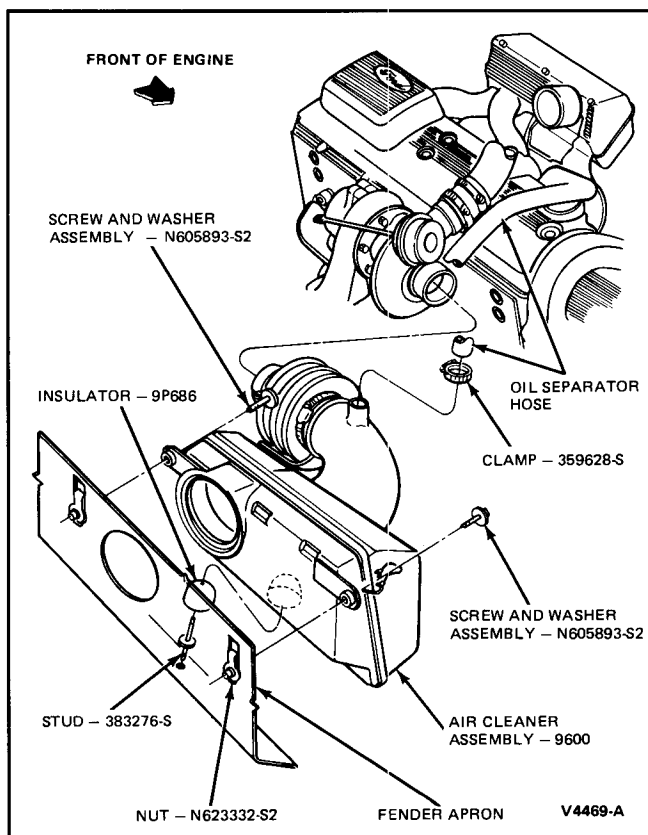

FIG. 1 Air Cleaner Assembly
Refer to Fig. 1.
1. Position air cleaner assembly to vehicle and install with two screws (Fig. 1).